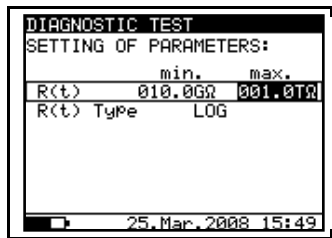

Fig. 21. Set-up menu of the Graph R(t)
- Press the **SELECT** key to Set-up the parameters of the **graph R(t)**, see the **Fig. 21**. Press the **ESC** key to return to basic Set-up menu in the **Diagnostic Test** function.